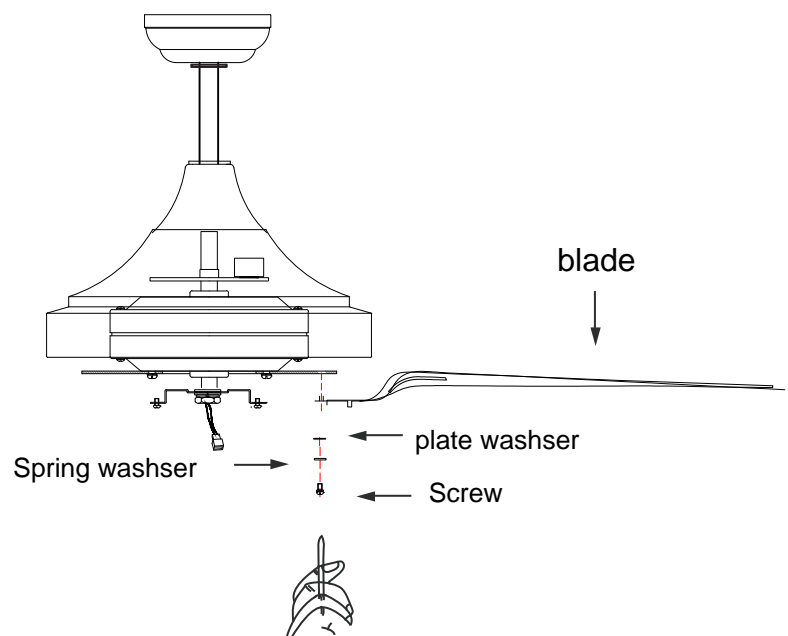

Fig 14
Step 3. Receiver to Supply Wires Electrical Connections: (Fig. 14) Connect the black (load) wire from the ceiling outlet box to the black wire marked "AC in L" on the receiver. Connect the white (neutral) wire from the ceiling outlet box to the white wire marked "AC in N" on the receiver. Secure each set of electrical connections with with the plastic wire nuts provided in the parts bag.
Step 1. Attach the blade to the flywheel using the screws, spring washer and flat washer in the bag as shown in figure 14. Star screw into flywheel. Repeat for the two remaining screws.